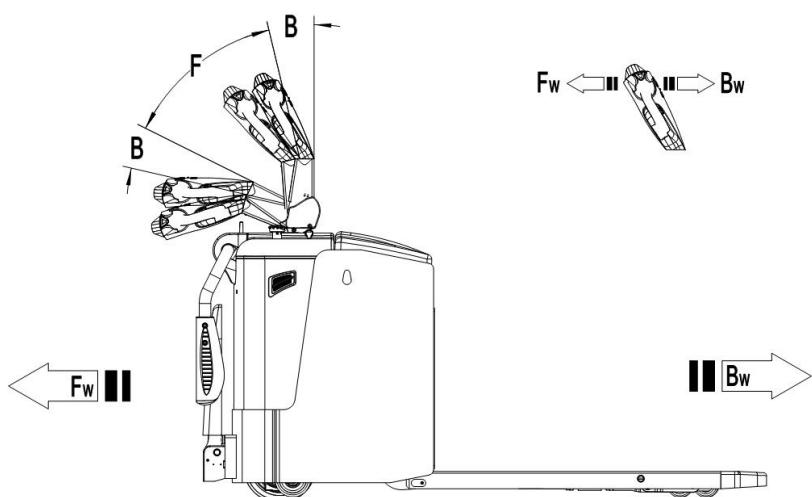

Fig. 13: Operating direction
After starting the truck by turning on the key switch (15), move the tiller to the operating zone ('F', fig.13). Turn the accelerator button to the desired direction forward 'Fw.' or backwards Bw.'(fig. 13)